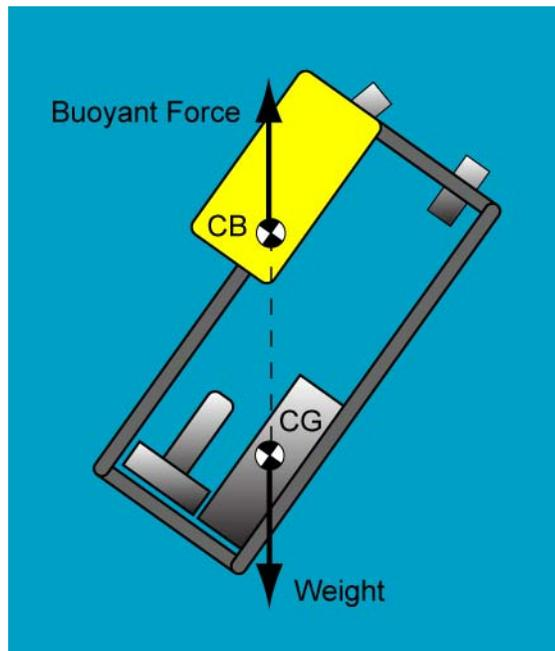

Figure 19: ROV in Equilibrium with Misplaced Center of Gravity and Center of Buoyancy
- Misplacing the floating and heavier ROV parts creates equilibrium positions that may be impractical and unworkable. See Figure 19.